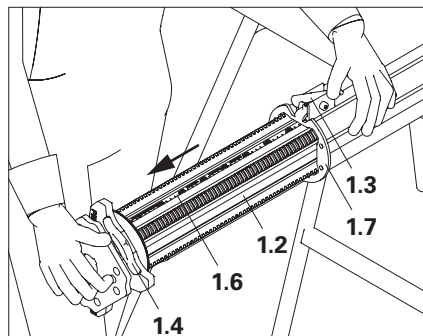
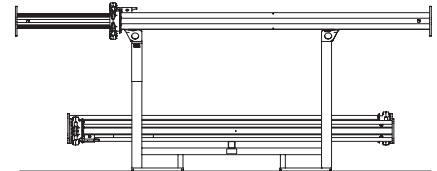

Fig. A1.01a
Fig. A1.01b
→ The adjusting nut (1.4) is disconnected. (Fig. A1.01a)
2. Extend inner tube (1.2) to the required prop length. (Fig. A1.01a + Fig. A1.01b)